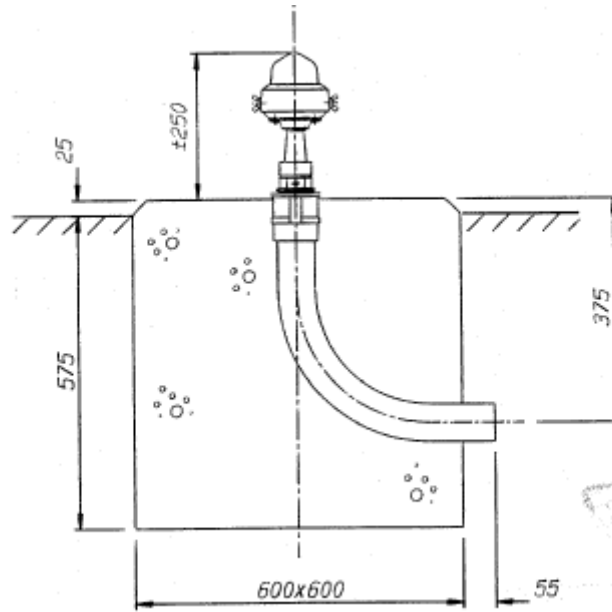

Fig. 10
- 5.6.1 With this installation method the VEE-3-030 is mounted on 2" - 11 TPI tapped sleeve on the top of the conduit elbow which is encased in a concrete block as shown on fig. 10.